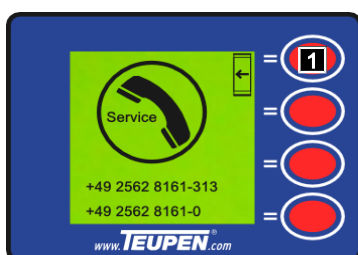

Fig. 87
1. Return to the main menu with [function key] (Fig.87/1).